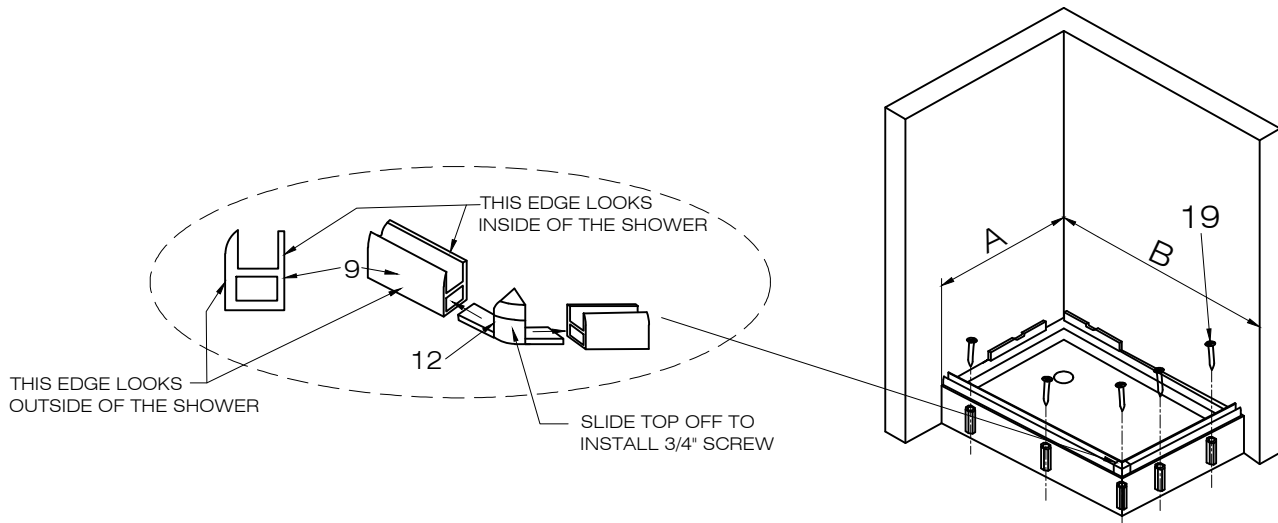

FIG.2
2. Remove top of the corner joint. Slide the bottom corner joint (#12) onto the bottom rail (2 pieces) (#9). [SEE FIG.2]